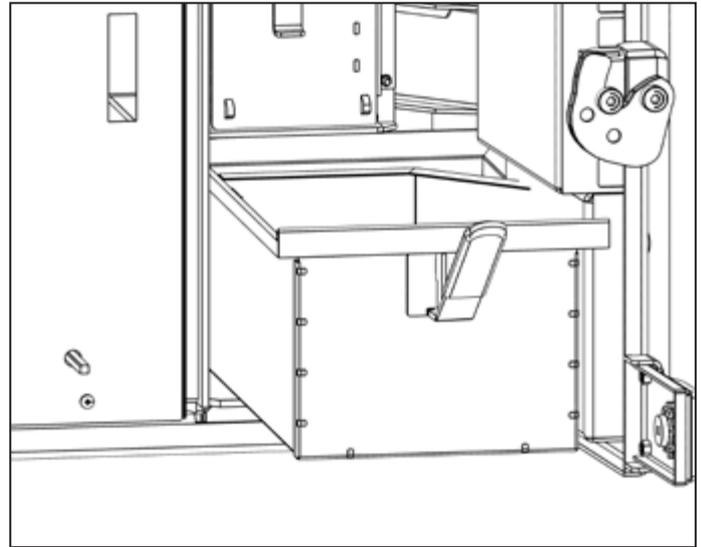

Figure 15: Removal of ash pan from boiler
*An ash pan carrying handle is also supplied with the boiler. This must be used in conjunction with the multi-purpose tool, to support the opposite end of the ash pan, when removing it from the boiler. Refer to Figure 15.
Using the multi-purpose tool provided with the boiler, carefully pull the ash pan forward and remove it from the boiler. Refer to Figure 15.